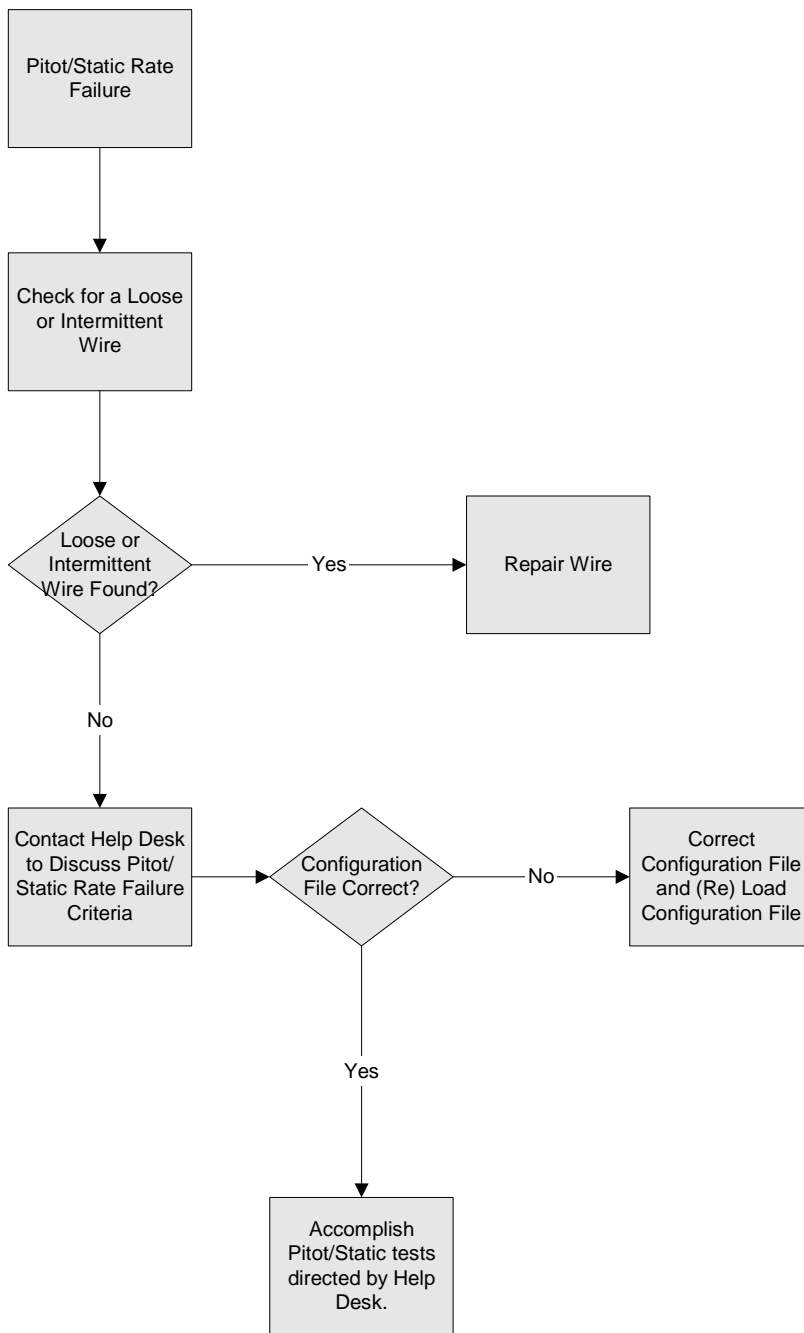

Figure 26: Pitot/Static Rate Failure Troubleshooting
- b. Transducer Rate Failure – Refer to Figure 26.